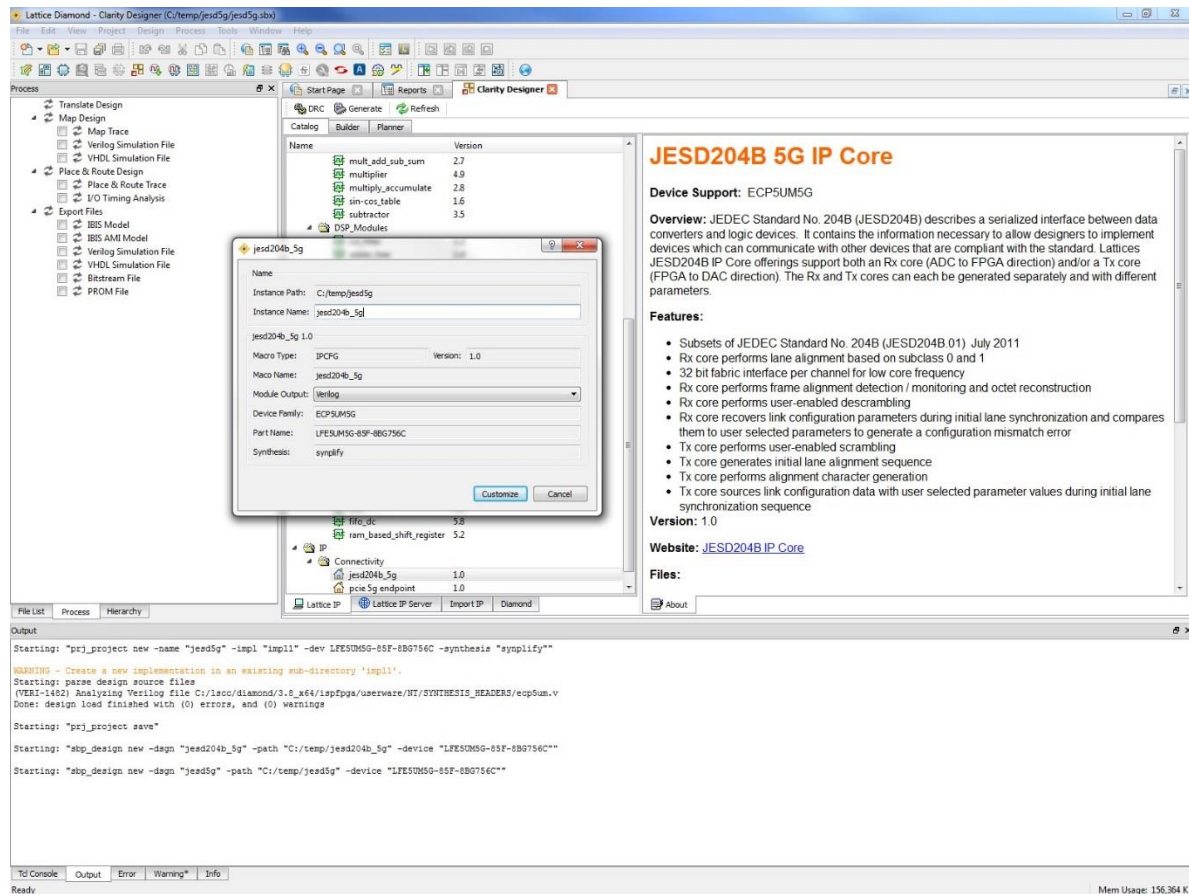

**Figure 4.3. Configuring JESD204B IP in Clarity Designer**
1. Double-click **JESD204B 5G** in the IP list of the System/Planner view. The **jесd204b\_5g** dialog box is displayed as shown in Figure 4.3.